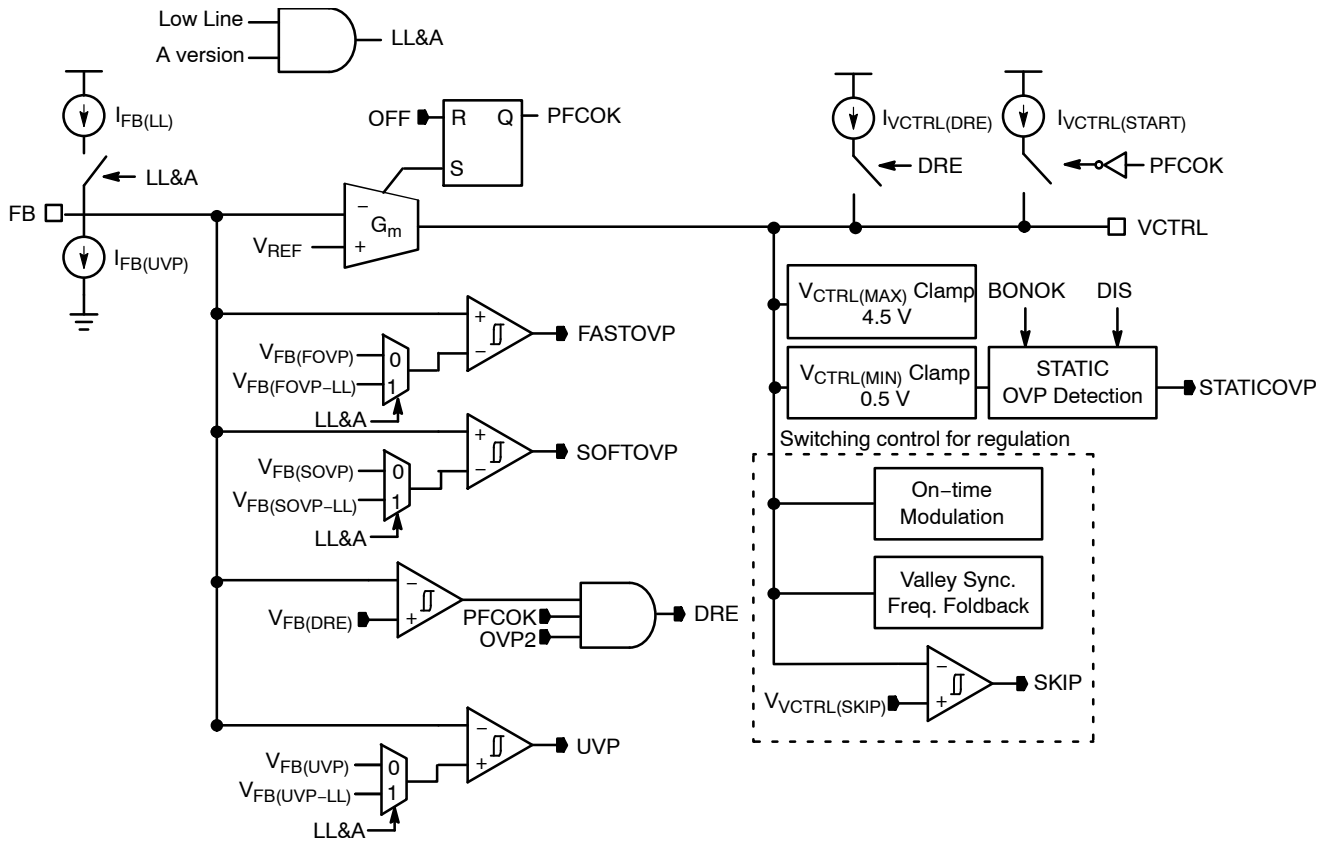
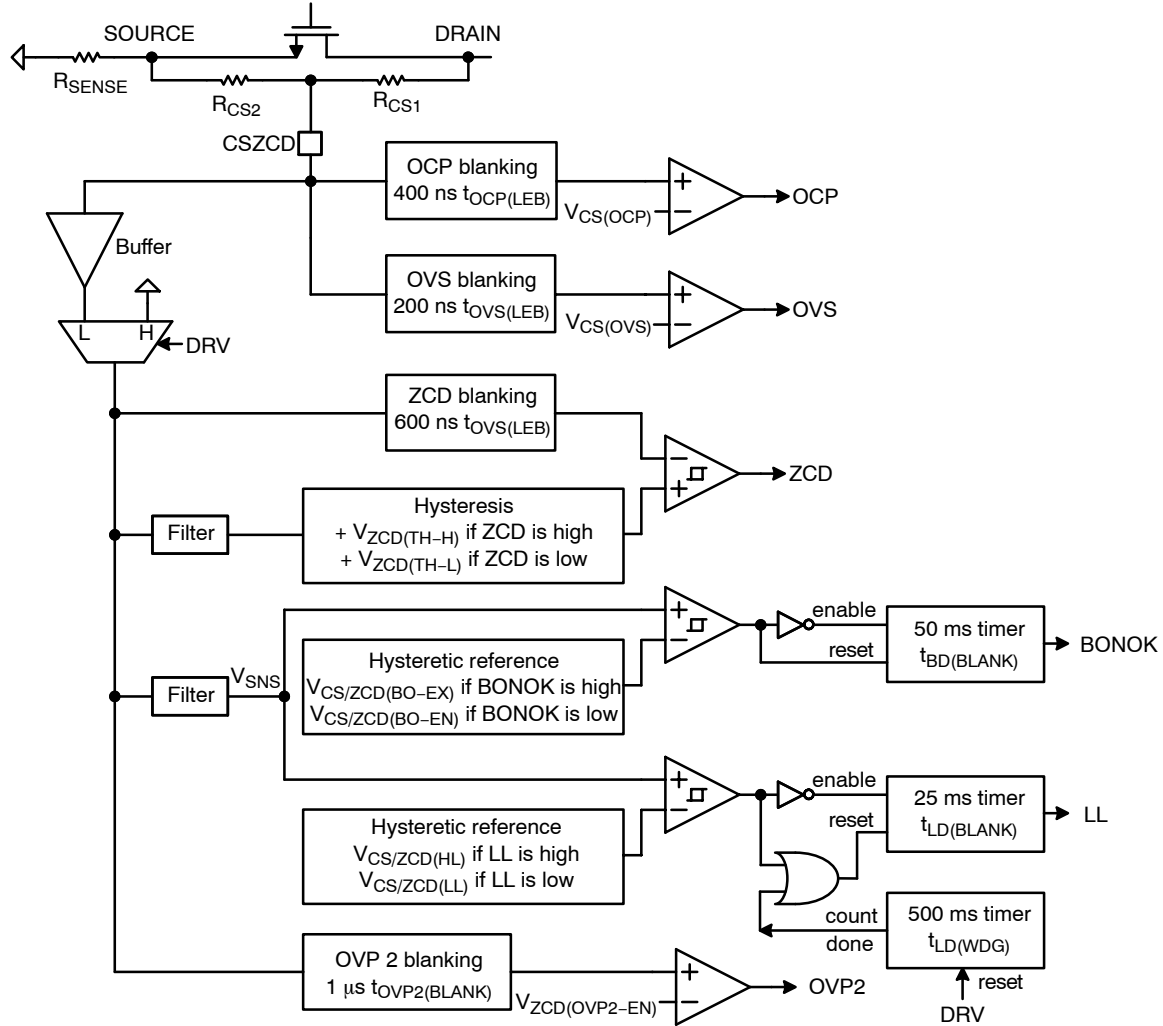

Figure 6. Feedback Regulation and Transient Control
Figure 7. CS/ZCD Internal Circuit Block
A trans-conductance error amplifier (OTA) with access to the inverting input and output is provided as shown in Figure 6. It features a FB reference voltage for output voltage regulation of 2.5 V, a typical trans-conductance gain of 200 μS and a maximum capability of about $\pm 20 \mu\text{A}$ OTA output current. The VCTRL pin is the output of the error amplifier for external loop compensation. Typically, a type-2 network is applied between the VCTRL pin and ground to set the regulation bandwidth below about 20 Hz. VCTRL basically controls turn-on time, dead time in VSFF, skip mode and STATICOV:
The NCP1623 embeds a “Dynamic Response Enhancer” (DRE) that deals with the under-shoots of the output voltage at abrupt increases of the load current. An internal comparator monitors the FB pin and when this voltage is lower than 95.5% V_{REF} , a 200 μ A $I_{VCTRL(DRE)}$ is sourced to speed up the charge of the compensation network as shown in Figure 6. Effectively this appears as a 10x increase in the loop gain. DRE is disabled during the start-up sequence until the PFC stage has stabilized and PFCOK is high. DRE is also disabled when the OVP2 (Second Over Voltage Protection) is triggered.
In case of output over-shoots, soft OVP is firstly triggered by comparing FB voltage and a soft OVP threshold, $V_{FB(SOVP)}$ as in Figure 6. Once the soft OVP is triggered, the turn-on time is gradually decreased in 4 to 5 switching periods to smoothly reduce powering. If FB voltage is even
As illustrated in Figure 7, the CS/ZCD pin provides the input signal for the following functions:
low-line (LL) detection is set longer than a half-line cycle but not that long to quickly detects an abrupt line transient from high to low. When the line changes from low to high and V_{SNS} is over $V_{CS/ZCD(HL)}$, high line mode is immediately entered. When high-line is detected (that is, when signal “LL” of Figure 7 is low), the loop gain, $t_{ON} / (V_{CTRL} - V_{CTRL(MIN)}) \mu s/V$, is divided by about 2.5 to ensure a 2-level feedforward.
As shown in Figure 7, when V_{SNS} is lower than the brown-out enter voltage ($V_{CS/ZCD(BO-EN)}$) for BO blanking time (50 ms $t_{BO(BLANK)}$), BONOK signal is high and the drive is not immediately disabled. Instead, a 30 μA current source ($I_{VCTRL(BO)}$) gradually reduces V_{CTRL} . As a result, the circuit keeps generating DRV pulses until the STATICOV trips (that is when V_{CTRL} reaches the minimum clamp level, 0.5 V $V_{CTRL(MIN)}$ as shown in Figure 6). This method relieves the risk of input voltage bouncing the fault line detection caused by EMI filter oscillation from an abrupt DRV stop.
Similar to power reducing sequence in brown-out, the drive is not immediately disabled and 30 μA current source gradually reduces V_{CTRL} until the STATICOV function trips in Figure 6. The DIS sleep mode is maintained until the DIS pin is externally pulled down below the DIS sleep mode exit voltage ($V_{DIS(EX)}$, 0.8 V minimum).